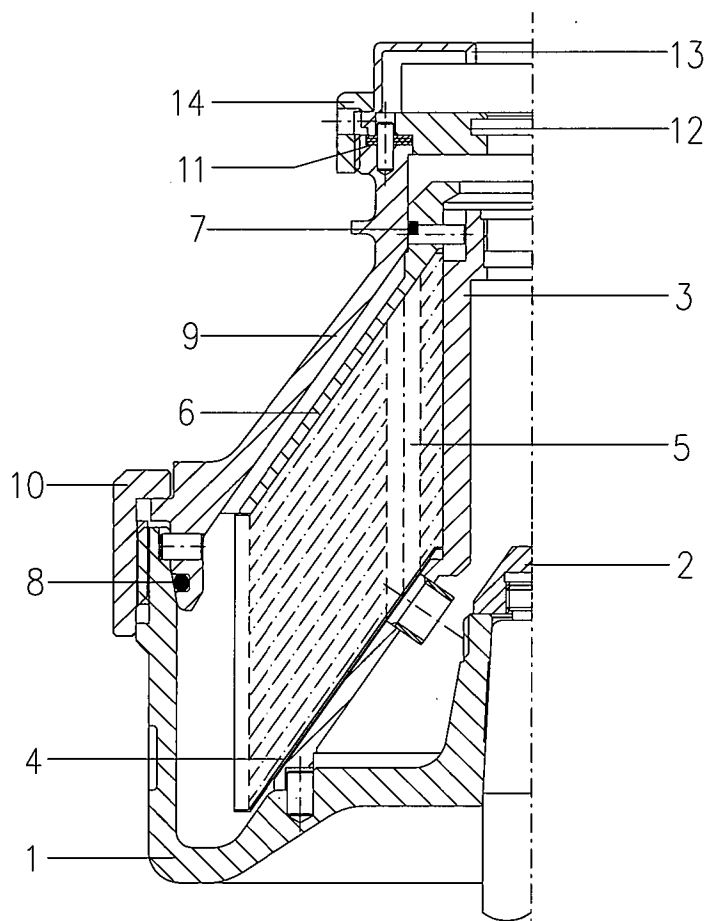
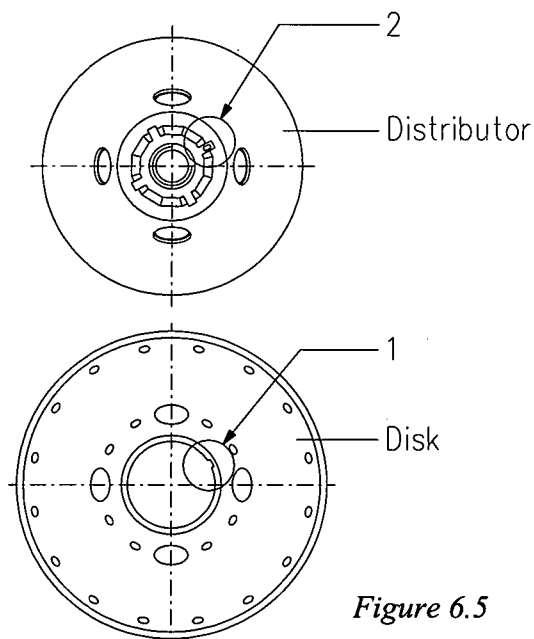
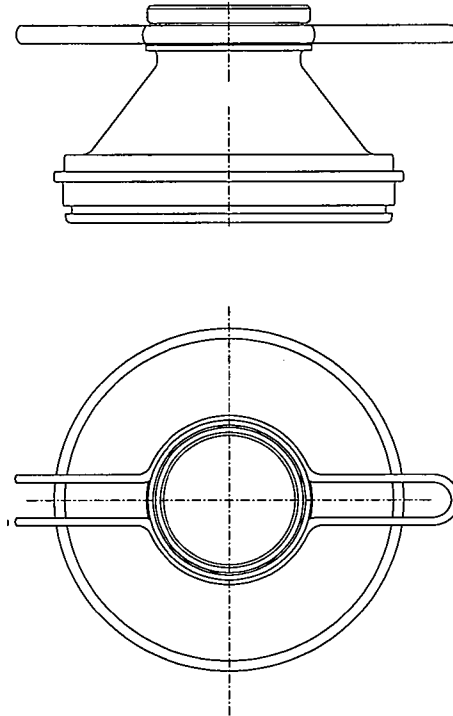

Figure 6.1
Figure 6.5
Figure 6.7
The bowl is supplied separately from the rest of the machine, so before setting at work the machine, it must be dismantled and assembled on vertical shaft in the frame. The bowl, rotating at high speed, is subjected at high stress that could compromise the operating safety of separator in case the bowl has been improperly assembled and cleaned. In *Figure 6.1* are shown all the main pieces of the bowl.
- Every part must be correctly positioned; almost all bowl parts have an angular position fixed by pins or feather keys - except for threaded parts and gaskets (Figure 6.1 - parts 2, 7, 8, 10, 14).
- 3) By the suitable spanner (09.040.0), screw tight the **bowl body nut** (part 2 in fig. 6.1). Remind that it has left-handed thread.
- 5) Insert the **disks**. The disks can be inserted in the distributor only in one way. As shown in Fig. 6.5, over the distributor is marked a big "O" that must be aligned with "O" marks of the bowl body. To insert disks, rotate them until the small slot (1- fig. 6.5) made on the internal upper edge is aligned with the small "o" marks of the distributor (2); then make them glide on the distributor fins. Insert at first the **bottom disk** (Fig. 6.1, part 4) that distinguishes itself by having spacers on both surfaces. Then insert the intermediate disk (Fig 6.1, part 5). Take care to not change the sequence of the disks.
- 6) Place down the **upper finned disk** (fig 6.1, part 6). this the last disk to be inserted.
- 7) After carefully cleaning the groove, insert the OR gaskets on upper finned disk (fig 6.1, part 7).
- 8) After carefully cleaning the groove, insert the OR gaskets on bowl hood (fig 6.1, part 8).
- 10) By the spanner (09.010.0), place down the **bowl hood** (fig 6.1 - part 9). Proceed as follows (fig 6.7) :
- 12) By the spanner (09.020.0) screw the **big lock ring** (fig 6.1 - part 10) that has left-handed thread. It must be possible screw by hands the ring until the "0" mark is at least 1 cm. before the "0" mark of the bowl body (if this does not happen, it means that the assembly is not correct or the number of disks is wrong). Then fasten it down as much as possible by striking with mallet (09.030.0) the spanner handle. Now the "0" marks must be
- 9) By the spanner (09.010.0), extract the **bowl hood** (fig. 6.7). Proceed as follows: